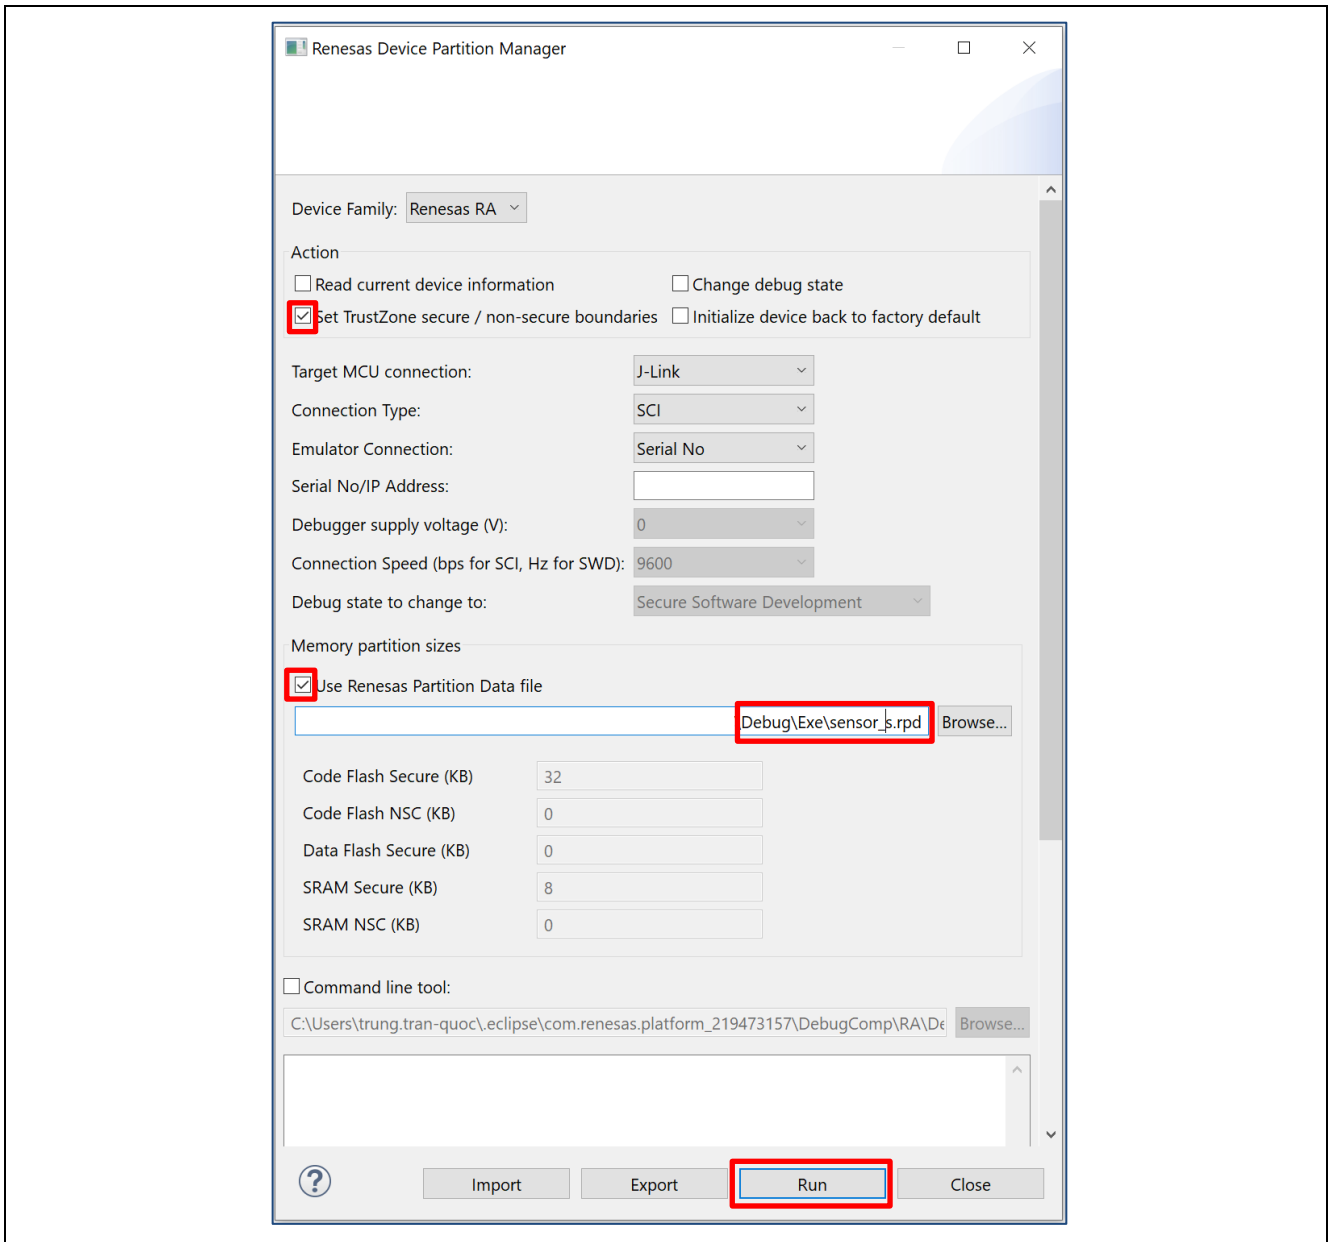

Figure 81. Configure the RDPM
Once the RDPM is launched, configure the settings as shown in Figure 81. Use **Browse** to select the .rpd file generated from the secure project (sensor_s.rpd) as the input for the **User Renesas Partition Data file** entry.
9. Set the TrustZone boundary using the sensor_s.rpd file generated during the compilation process in a similar way as shown in Figure 81.